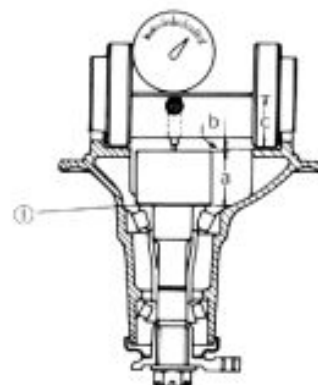

Fig. 16-21-3
- Referring to Fig. 16-21-3, note that three dimensions are involved: "a" "b" and "c". The value of "b" is unknown, and is to be determined now for calculating the required thickness of shims. The values of "a" and "c" are given: the sum, "a" + "c", is 85 mm, which is indicated on the dummy tool (09924-36320).
- The shim stock is available in four selective thicknesses. Select and combine shim sizes to produce a total thickness as close to the required thickness as possible, and insert the selected shim pieces into the clearance indicated as Fig. 16-21-3 - ①